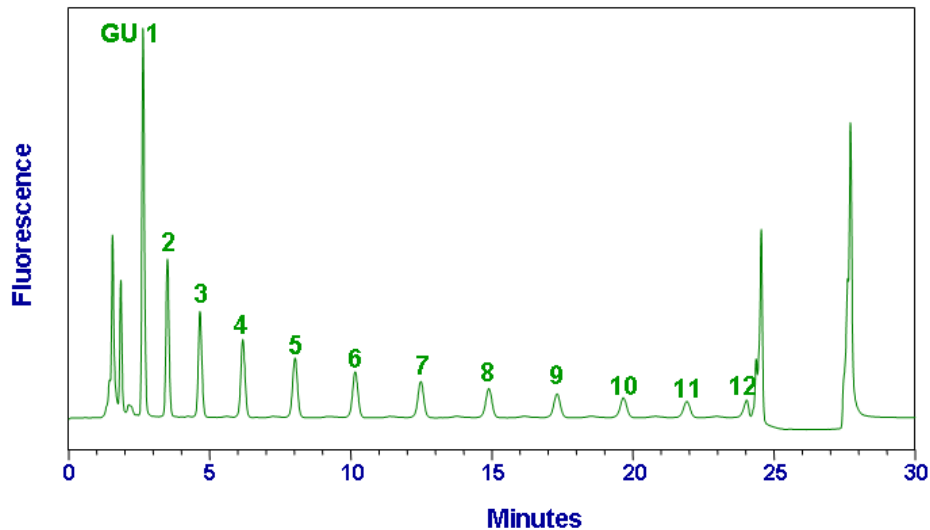
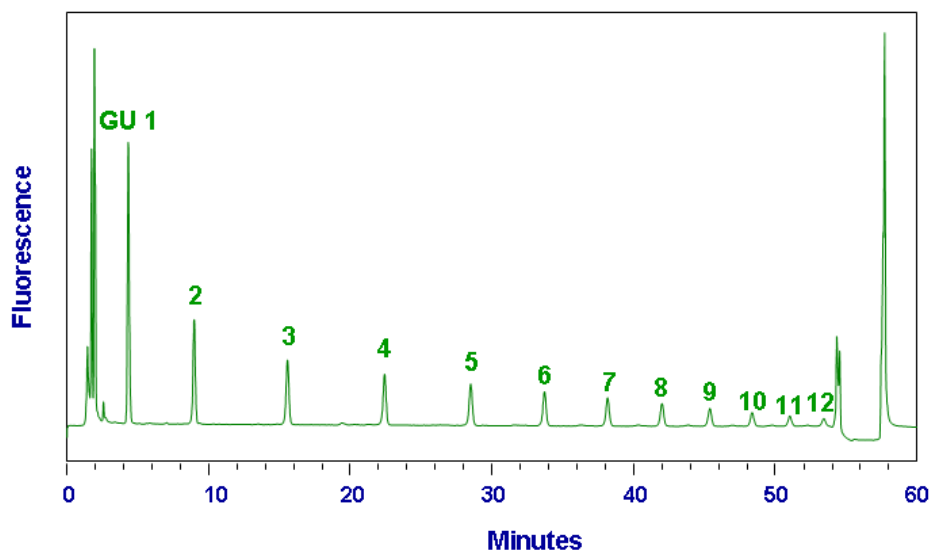

Figure 1: Typical HPLC chromatogram from 2-AB GHP run with method LSN2-30m-Nlink-35% on a 4.6 x 150 mm LudgerSepN2 column.
Figure 2: Typical HPLC chromatogram from 2-AB GHP run with method LSN2-60m-Nlink-20% on a 4.6 x 150 mm LudgerSepN2 column.
- The GHP system suitability profile should be similar to that in figure 1 using the gradient LSN2-30m-Nlink-35%, or figure 2 if using the gradient LSN2-60m-Nlink-20%,.
- The GHP ladder can also be used to calibrate against day-to-day and system-to-system changes by expressing the elution time of peaks as glucose units (GU). The GU value is calculated by fitting a cubic spline distribution curve to the GHP ladder (GU 1-12 in figure 1), this curve is then used to allocate GU values from retention times. These GU values are very reproducible for neutral glycans (± 0.03), with more variation in sialylated glycans (± 0.3) and can be compared to database values [<http://glycobase.ucd.ie/cgi-bin/public/glycobase.cgi>]